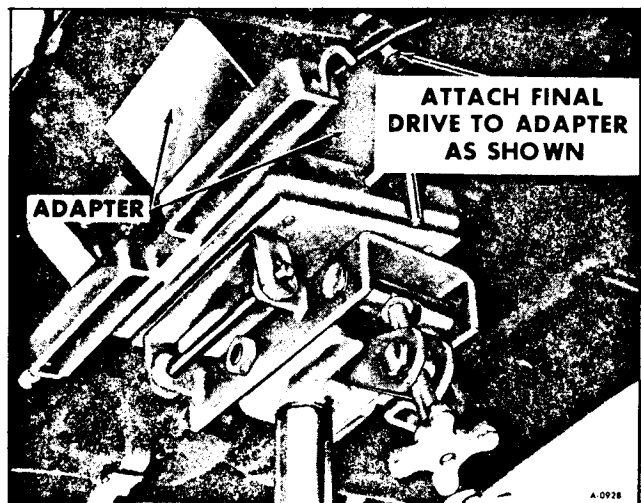

Figure 16—Connecting Lift to Final Drive
9. Position transmission jack with adapter for final drive as shown in Figure 16. Install an anchor bolt through final drive housing and lift pad.
3. Position final drive on transmission lift and install an anchor bolt through housing and lift pad. (figure 16)